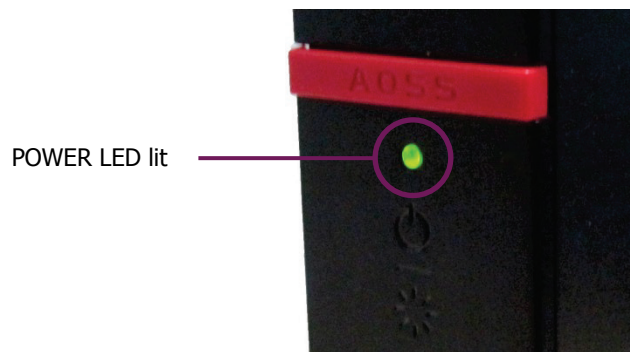

Figure 19 POWER LED on the wireless router
7. Ensure that the POWER LED on the front of the wireless router is lit green (Figure 19). The POWER LED will flash while the router initializes.